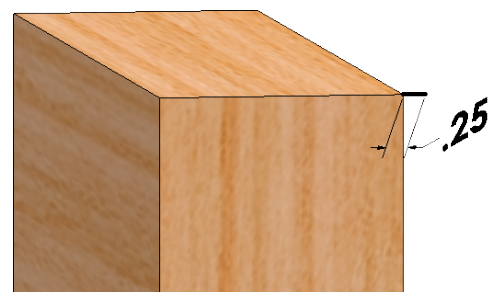

Fig. 4
Step 10. Click **Smart Dimension**  (S) on the Sketch toolbar.
Step 11. Dimension line .25, Fig. 4.